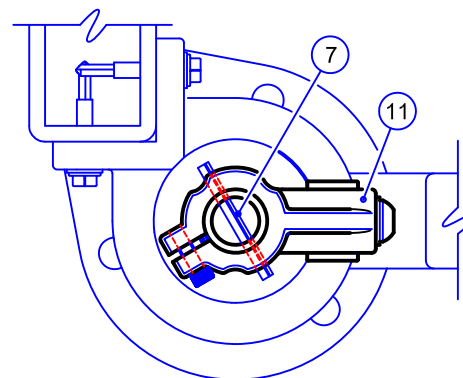

Figure 8b
PLACE THE 3/16 ROLL PIN ⑦ TO THE HOLE AND GENTLY STRIKE WITH A HAMMER UNTIL EQUAL AMOUNT OF THE PIN CAN BE SEEN ON EACH SIDE OF THE ROLLER ASSEMBLY ⑪ (Approx. 1/8"), SEE FIGURE 8b.